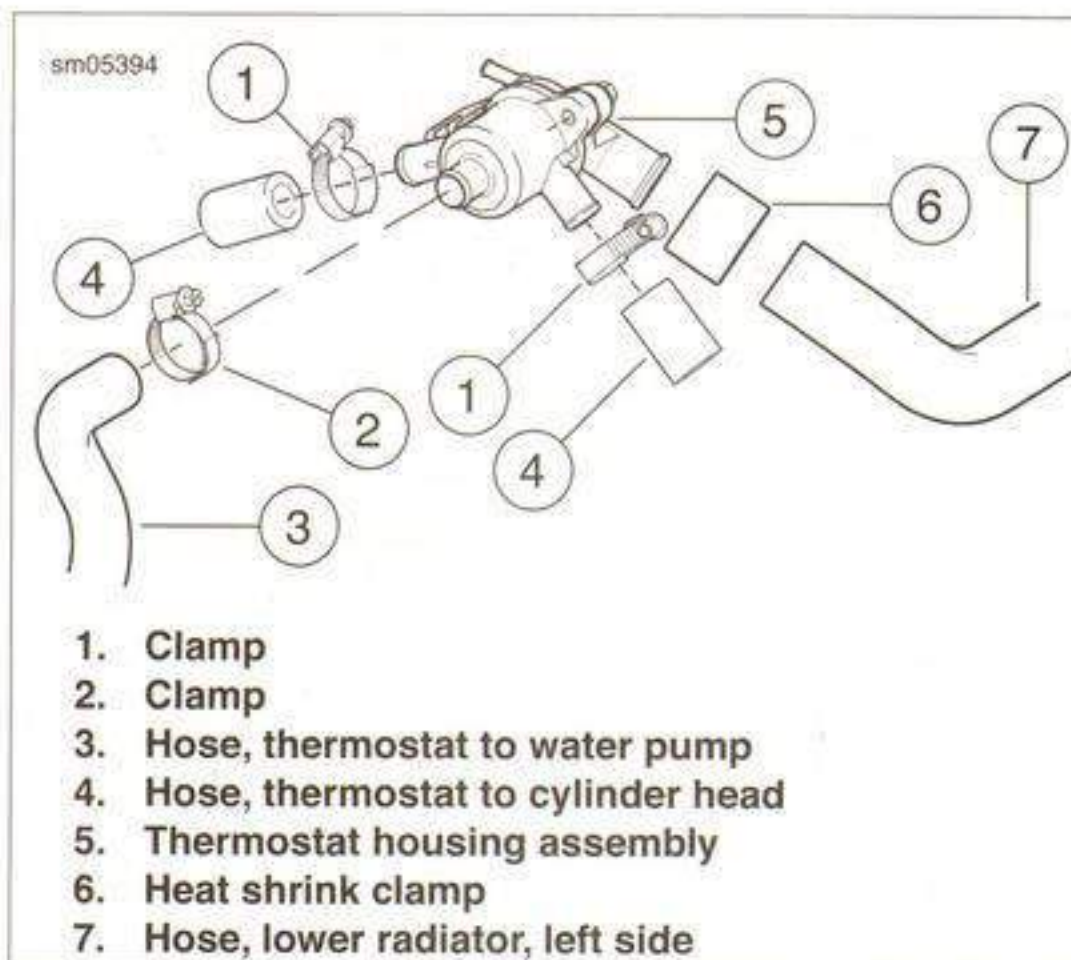

Figure 5-11. Thermostat Housing Assembly
7. See Figure 5-11. Loosen clamps (1) on cylinder to thermostat hoses (4).
8. Loosen clamp (2) on thermostat to pump hose (3) and remove hose from thermostat housing assembly (5).
11. Disconnect lower radiator hose (7) from left side radiator.
- See Figure 5-11. If replacing thermostat housing assembly, be sure to install lower radiator hose (7) to housing using **new** heat shrink clamp (6). Orient hose in the same manner as it was from the factory for proper fitment.
2. Install thermostat housing assembly with hose (7) attached into position on motorcycle. Be sure that hose orientation is exactly as it was mounted from the factory.
3. See Figure 5-11. Use a small amount of engine coolant and lubricate open hose ends and ports of thermostat housing assembly. Insert outlets of thermostat housing (5) into thermostat to cylinder head hoses (4).